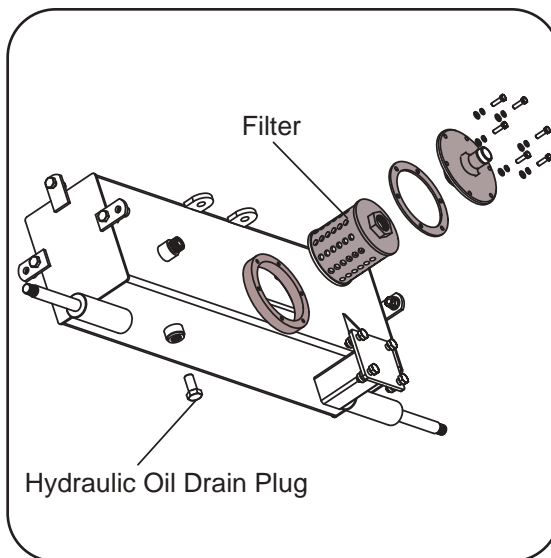

Figure 5-2
2. Carefully unthread the inlet filter and clean it with penetrating oil. See Figure 5-2.